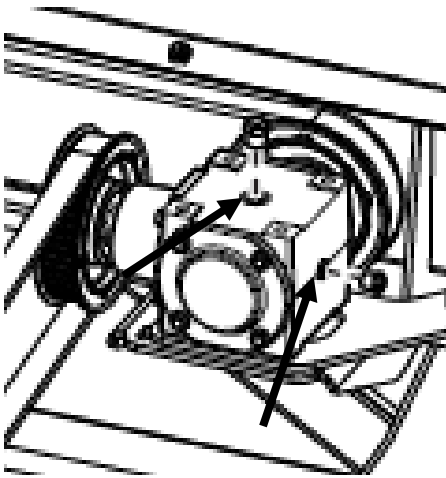

Figure 120
6. Fill the gearbox with 5.8 oz. (171 ml) 80-90W oil. Remove the plug on the top of the gearcase and fill until oil comes out the side plug. Figure 120